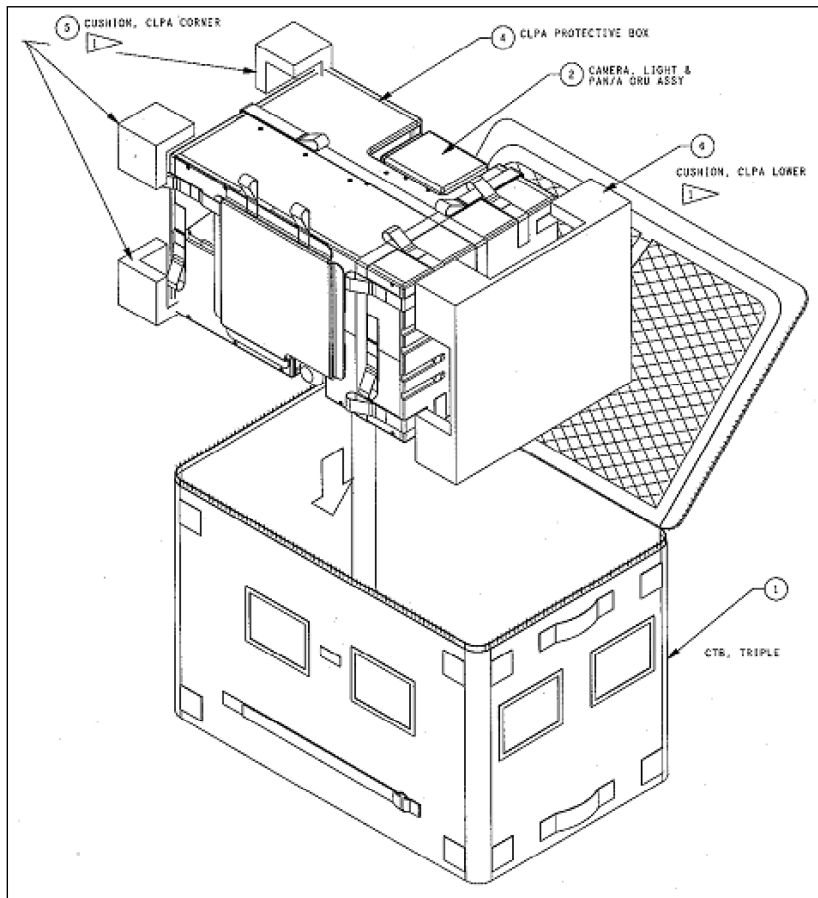

Figure 8: Final Packaging in 3.0 CTB
- 19. Secure Protective Shell Velcro ensuring case is closed. Install Beta cloth blanket cover on side cut out. Secure base plate Velcro. Reference Figure 8.